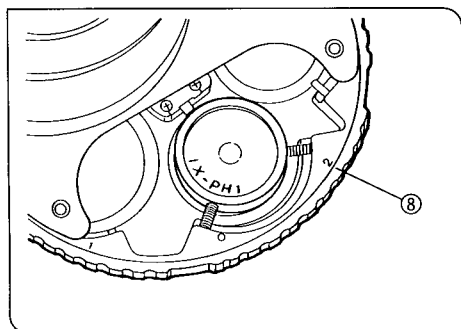

Fig. 25
⊙ The turret insert corresponding to the number indicated by the • symbol (10) is engaged into the light path. (Fig. 25)